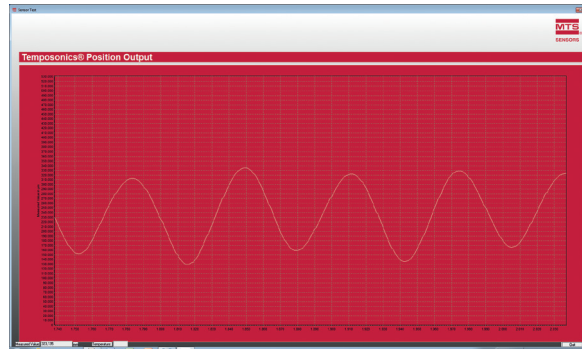

Fig. 58: Graphical display of position values via Test Sensor
- 2 Via **Test Sensor** the position of the magnet is displayed graphically. (Fig. 58).
- 9 Via **UART Result Counter** you define a time interval for the function **Test Sensor** to send a position value Fig. 58 (graphical presentation of position values). Example: If you choose “50” in the field **UART Result Counter**, each 50. measurement will be displayed.